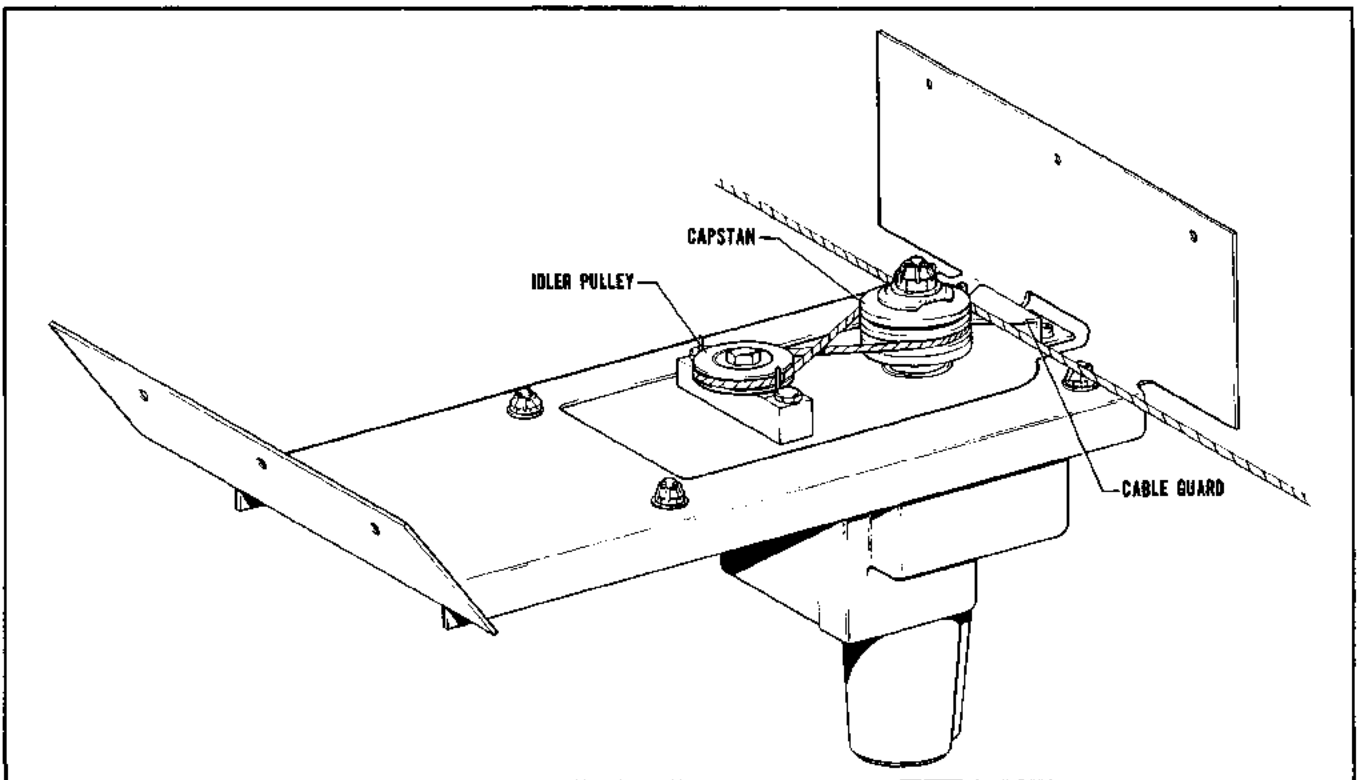

Figure 3-18. Pitch Trim Servo Installation, PA-23-250
**3-24. INSTALLATION OF PITCH TRIM SERVO. (PA-23-250 six Place) E & F Models. (Refer to Figure 3-18.)**